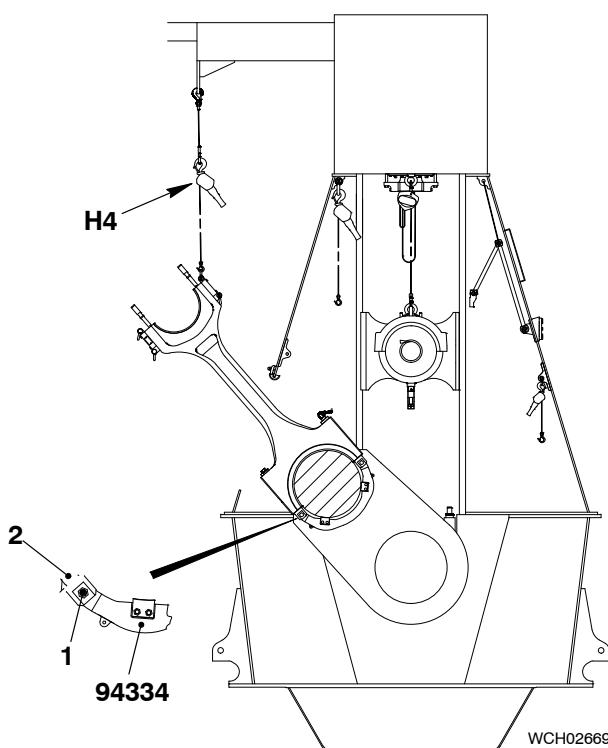

Fig. 14
- 16) Attach the bottom end of the holder (94334, Fig. 14) to the bottom rod (2) with the nut and bolt (1).